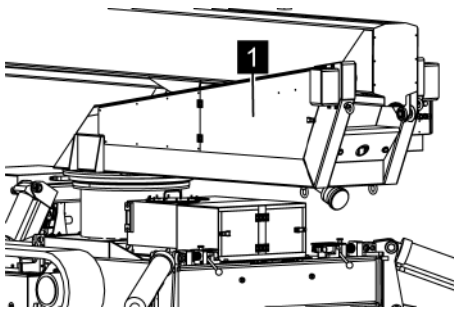

Fig. 121: Door on the lift arm holder
2. ➤ Open the door (Fig. 121/1) on the lift arm holder.